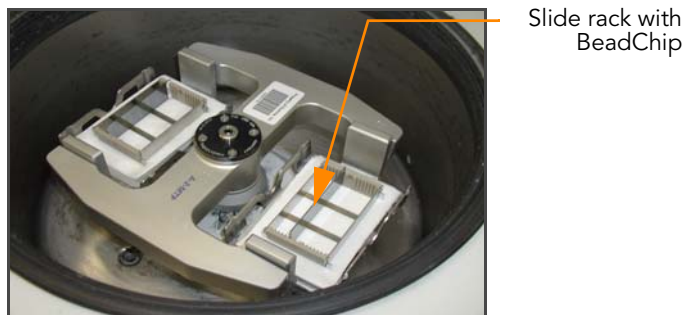

Figure 39 Slide Rack with BeadChip in Centrifuge
5. Transfer the rack of BeadChips from the staining dish to the centrifuge (Figure 39), close the door, and press **Start**.